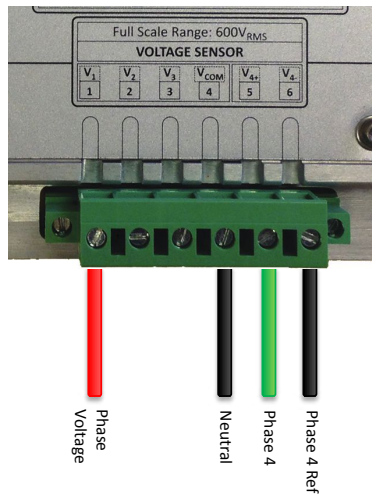

Figure 25: Vecto II single-phase connection
- Connect the phase Voltage to Voltage Inputs 1 as shown in Figure 25.